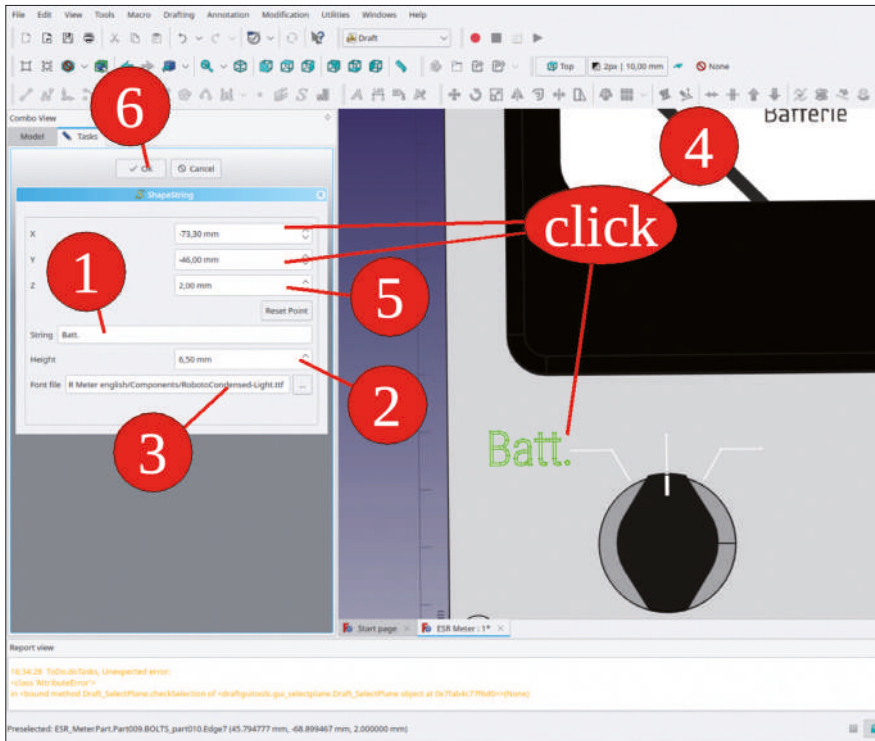

Figure 8-28
2. In the task window, enter 'Batt.' (designates 'battery testing') for the string and set the height to 6.5 mm. Click approximately at the location of the front panel, where you want to bring the text outline. Then, for the Z offset, enter 2 mm (the front panel thickness), as Z is reset to 0 when you clicked (Figure 8-28).
4. Close the task window with the 'OK' button. Locate the 'Shape String' object in the tree view, grouped in the 'Front Panel Complete' Std-Part-Container, and mark it (Figure 8-28).